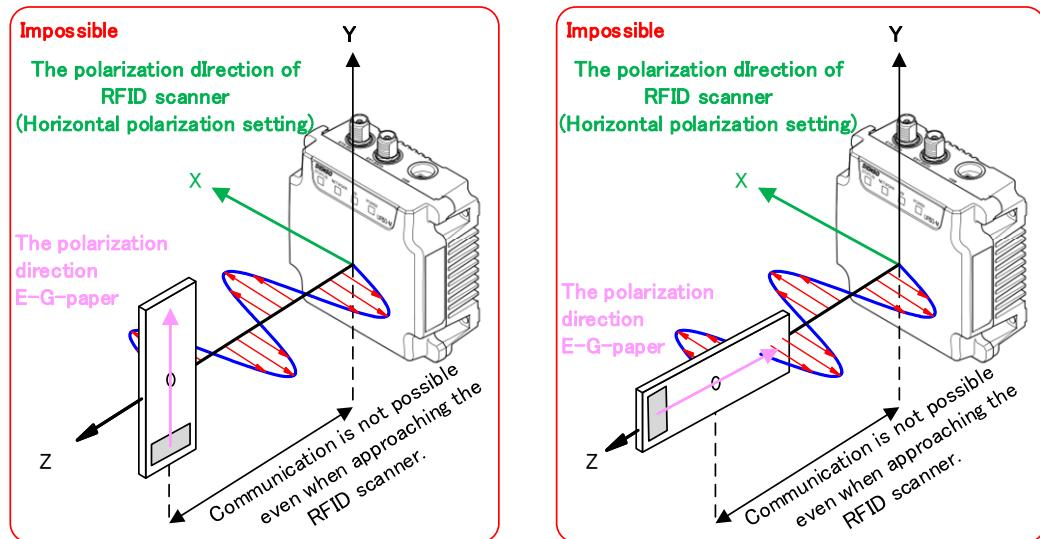

Figure 7.7 An Example of Unable Communication Arrangement
- If the display surface of the tag is facing the X-axis, it will not be able to communicate with the RFID scanner even it is placed close to it. Referring Figure 7.7.